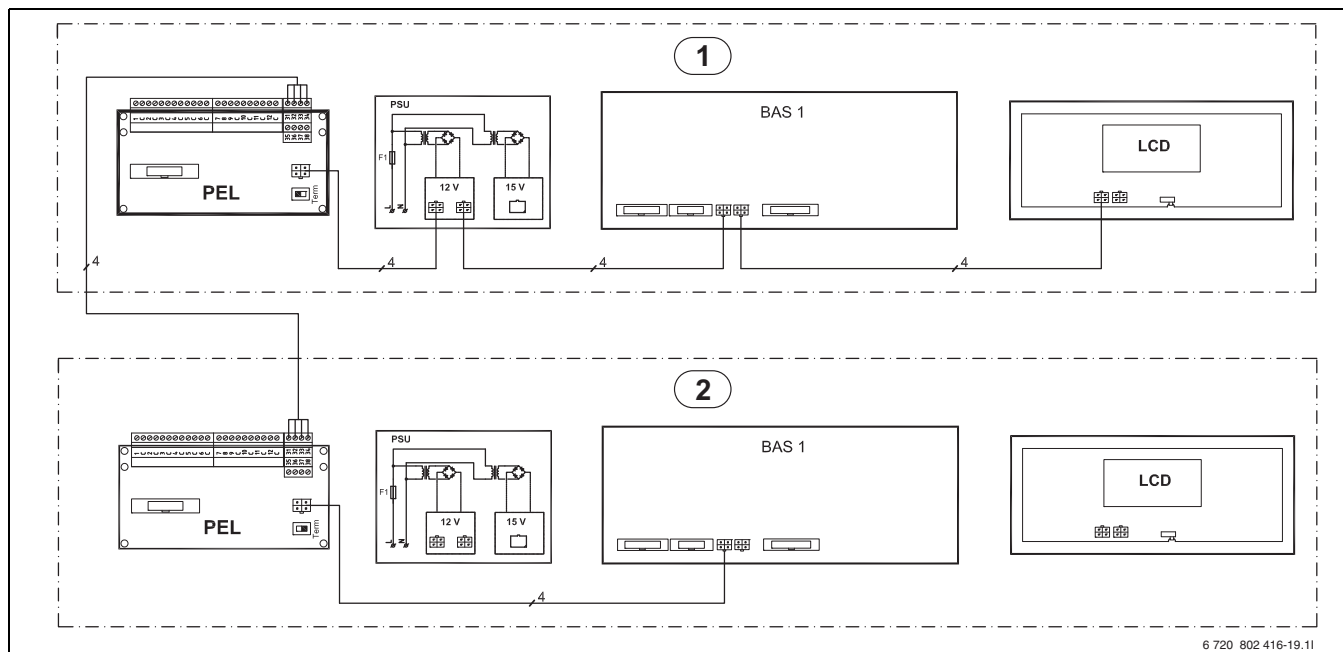

Fig. 40 CAN-BUS overview with two heat pumps
**NOTICE:** PSU and LCD (→Figure 40) in heat pump 2 are factory connected, these must be disconnected and are not used in cascade connection
**i** The recommended cabling is cable type LIYCY (TP) 2x2x0.5. The cable must be twisted pair and screened. The screen must only be earthed at one end and to the chassis. Maximum cable length is 30 m.
4. Re-connect CAN-BUS with existing CAN-BUS cabling in heat pump 2 (→Figure 40).